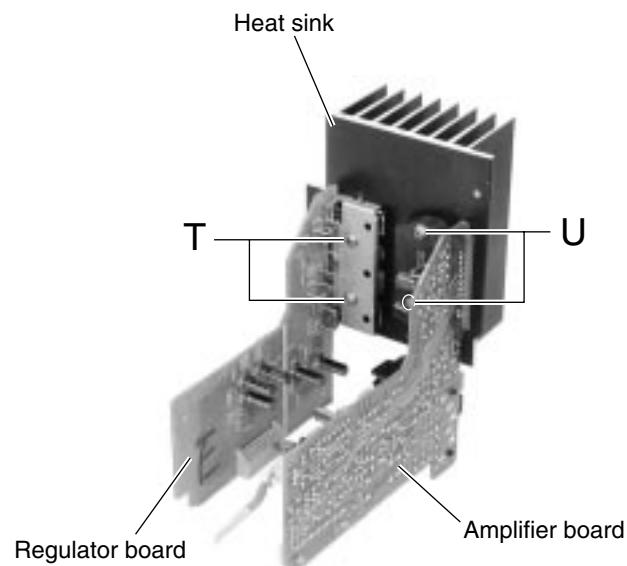

Fig.21
■Removing the regulator board / the amplifier board (See Fig.21)